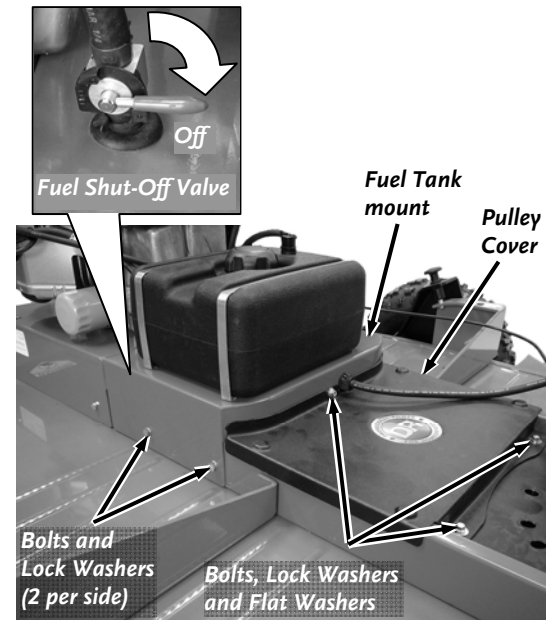

Figure 29
1. For Pro and Pro-XI Models, Turn the Fuel Shut-Off Valve to the OFF position (**Figure 29**).